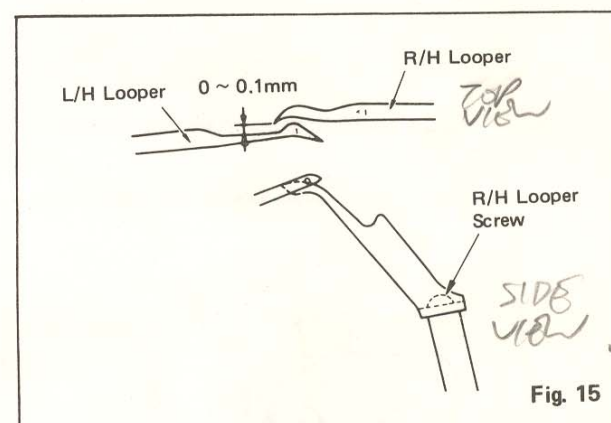

Fig. 15
- Loosen right hand looper screw and adjust right hand looper so that clearance between its point and rear side of left hand looper is as shown in Fig. 15.